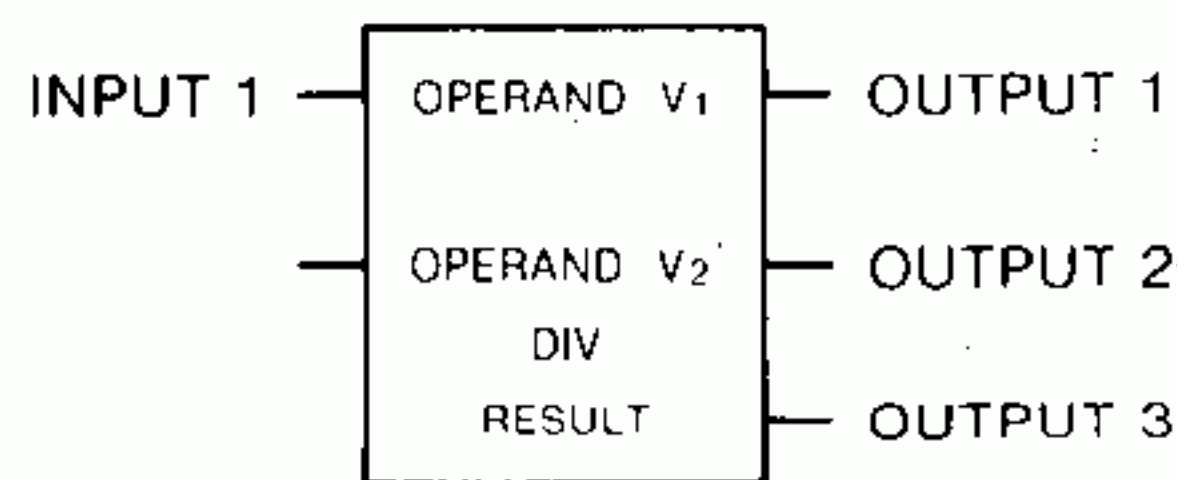

Fig. 5.35 DIV General Form
(2) Form
- Fig. 5.35 shows the form of divide (DIV).